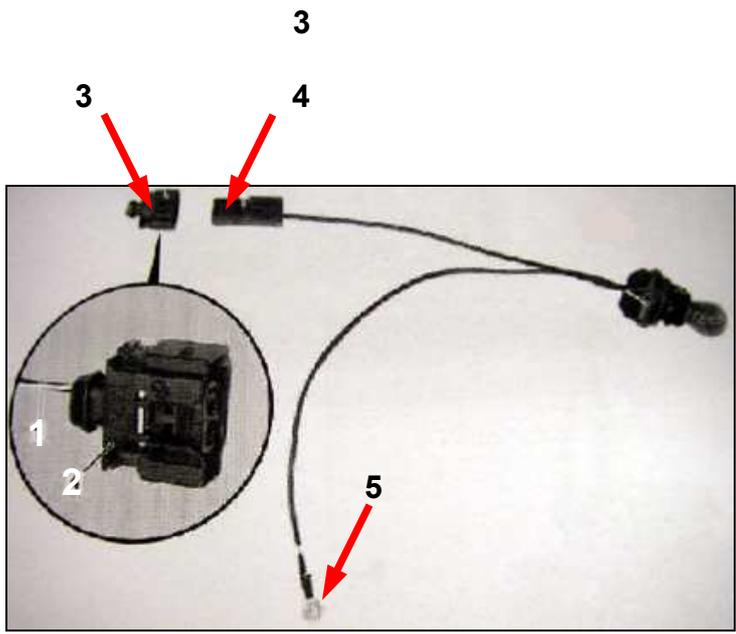

Fig. 2
- Lock the supply cable (see Fig. 2, Item 1) into place in the plug housing of the repair kit (see Fig. 2, Item 2).
- Connect the plug housing (see Fig. 2, Item 3) to the plug of the harness (see Fig. 2, Item 4).
- Connect the ring eye (see Fig. 2, Item 5) to a suitable earth point.